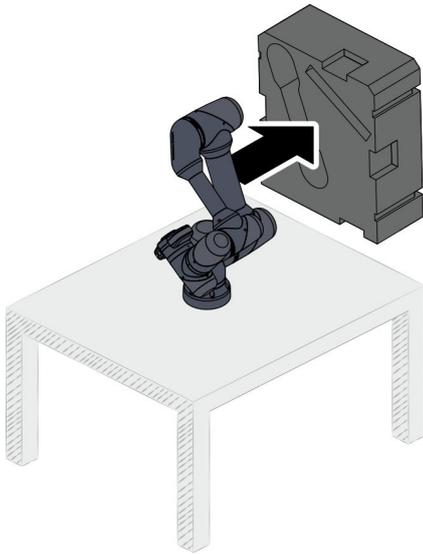

Fig. 49 Removing packaging part 3
14. Remove packaging part 3 Fig. 49 and completely unwind the robot cable.